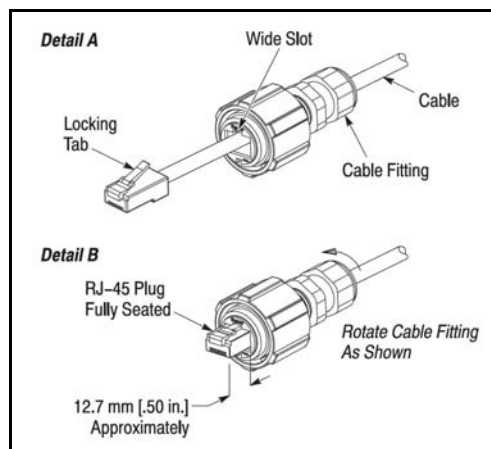

Figure 11-5: Assembly Detail
1. Align the locking tab of the RJ-45 plug with the wide slot at the front (end opposite the cable fitting) of the plug assembly. See Figure 11-5, Detail A.
2. Depress the locking tab, and insert the RJ-45 plug into the plug assembly. Gently pull the cable until the RJ-45 plug is fully seated. There should be approximately 12.7 mm [.50 in.] of the RJ-45 plug protruding from the front of the plug assembly. See Figure 11-5, Detail B.
3. While holding the RJ-45 plug in position, rotate the cable fitting as shown in Figure 11-5, Detail B until tightened to a torque of 1.13 N-m [10 lbf-in.].